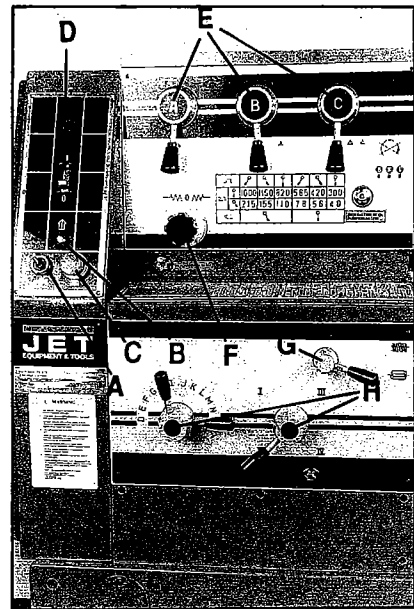

Fig. 14
- A. **Coolant On-Off Switch** (A, Fig. 14) - turns coolant pump on and off.
- B. **Power Indicator Light** (B, Fig. 14) - lit whenever lathe has power.
- C. **Emergency Stop Switch** (C, Fig. 14) - depress to stop all machine functions. (**Caution:** lathe will still have power). Twist to re-set.
- D. **Main Power Switch** (D, Fig. 14) - turns power to machine on and off.
2. **Headstock Gear Change Levers** (E, Fig. 14) - located on front of headstock at the top. Move levers left or right to desired spindle speed.
3. **Leadscrew/Feedrod Directional Knob** - (F, Fig. 14) - located on front of headstock. Changing knob changes direction of feed. Do not move knob while machine is running.
4. **Feed/Lead Selector Lever** (G, Fig. 14) -located on the front of the gear change feed box. Used whenever setting up for threading or feeding.
5. **Feed/Lead Selector Lever** (H, Fig. 14) - located on the front of the gear change feed box. Used in setting up for feeding and threading. Position levers for desired feed or lead according to the thread/feed chart on top of the gear box.